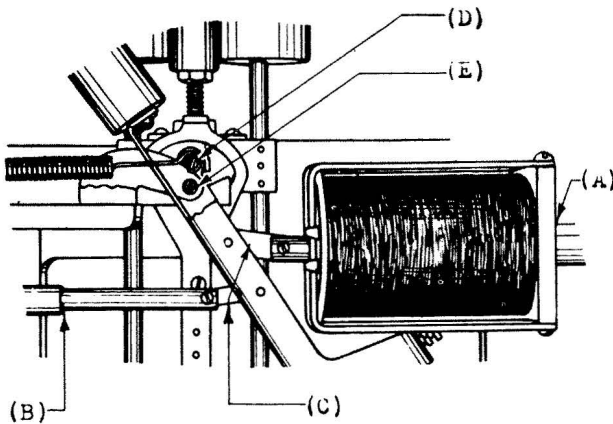

Fig. 6 - Points of Lubrication
- (1) Solenoid plunger. Fig. 6 (A)
- (2) Dash-pot plunger - Fig. 6 (B) - (Only with leather washer)
- (3) Bearings of links connecting solenoid plunger and dash-pot plunger to the reset arm. Fig. 6 (C)
- (4) Point of contact between pin in reset arm and retractile spring. Fig. 6 (D)
- (5) Bearing of reset arm. Fig. 6 (A)